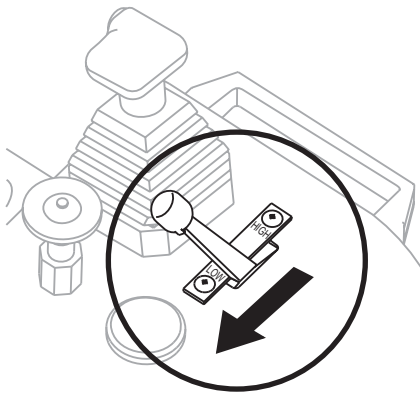

Figure 10. Engine Throttle Control Lever (Low)
4. Place the **engine throttle lever**, (Figure 10) in the **LOW** position.